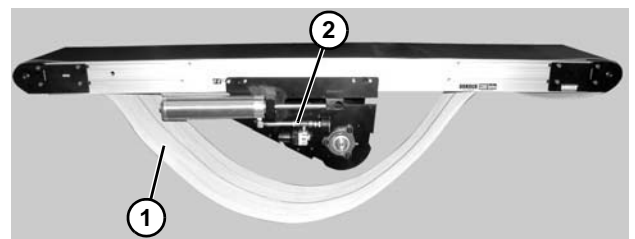

Figure 40
11. Remove belt (**Figure 40, item 1**) from center drive module (**Figure 40, item 2**) and conveyor.